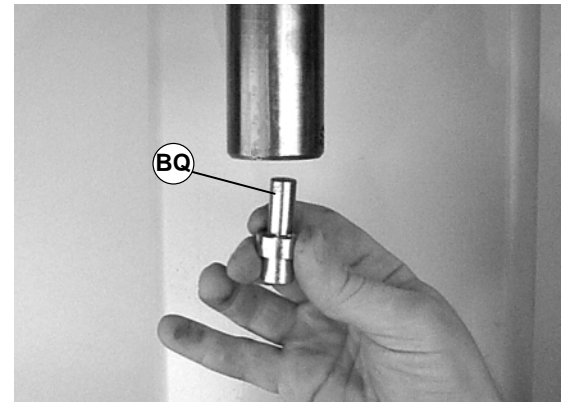

Figure 52
2. Install bearing insertion tool (part # 25-10\*) (BQ of Figure 52) into arbor press or similar device.